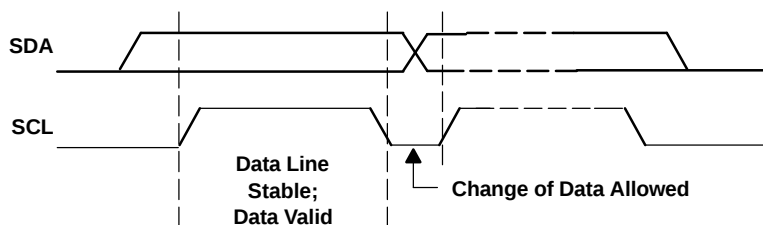
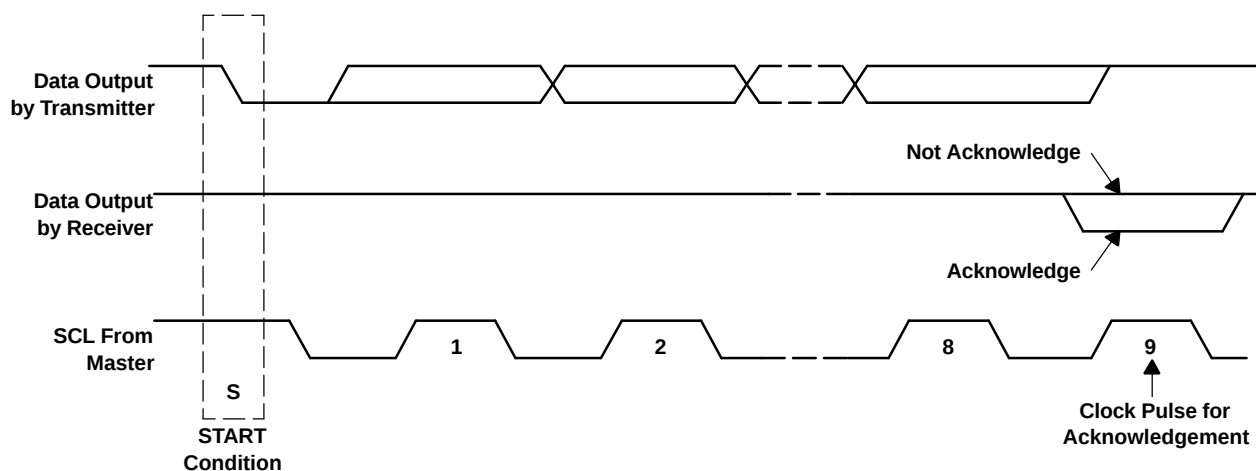

Figure 42. Bit Transfer on the I²C Bus
Figure 43. Acknowledge on the I²C Bus
- The master then generates the SCL pulses and transmits the 7-bit address and the *read/write direction bit* R/W on the SDA line. During all transmissions, the master ensures that data is *valid*. A *valid data* condition requires the SDA line to be stable during the entire high period of the clock pulse (see Figure 42). All devices recognize the address sent by the master and compare it to their internal fixed addresses. Only the slave device with a matching address generates an *acknowledge* (see Figure 43) by pulling the SDA line low during the entire high period of the ninth SCL cycle. On detecting this acknowledge, the master knows that a communication link with a slave has been established.